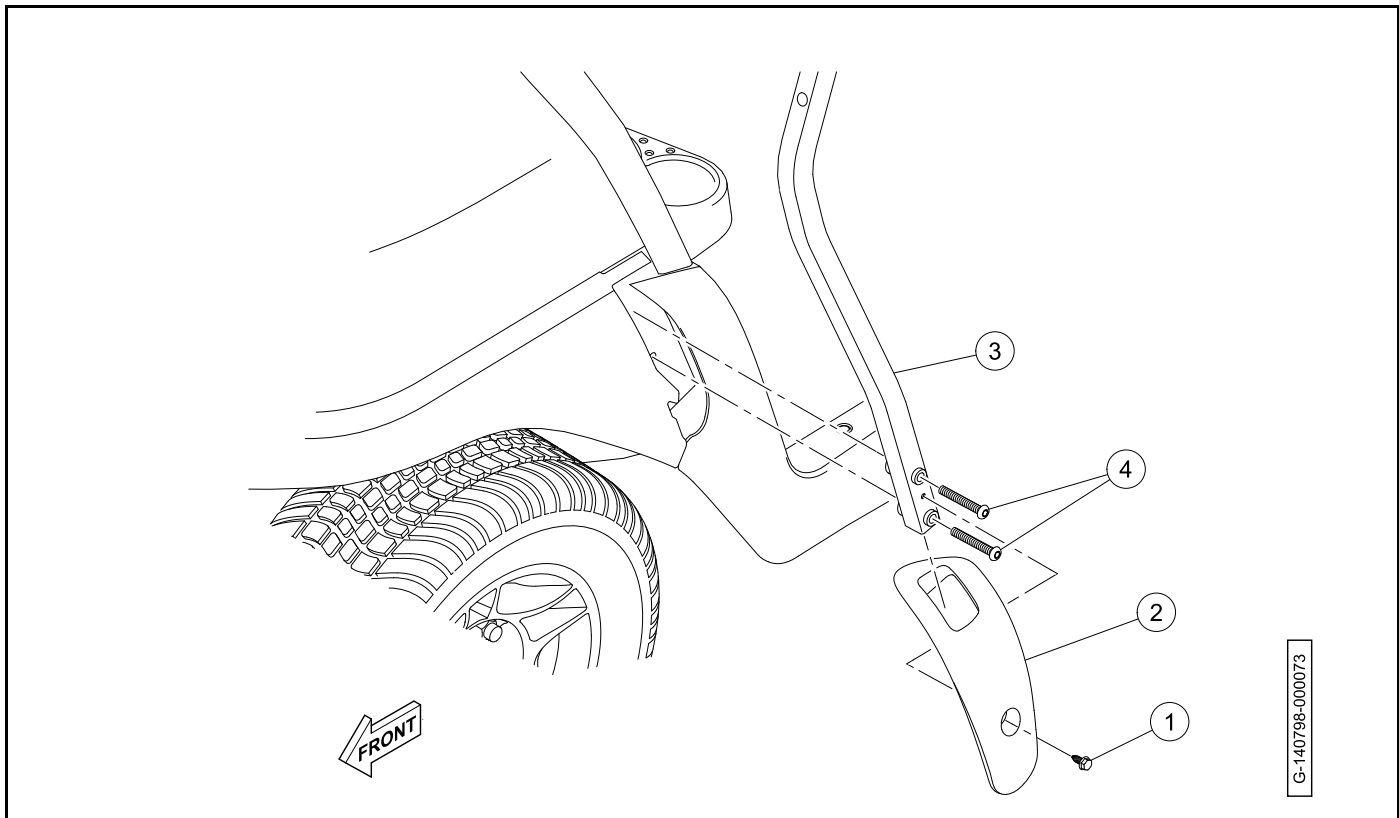

Figure 4-60 Front Canopy Strut Installation
1. Install the front canopy strut (3) onto the vehicle (**Figure 4-60, Page 4-62**).
2. Install the front canopy strut cover (2) onto the front canopy strut.
3. Install the screws (4). Tighten the screws to 18.4 lb·ft (25 N·m).
4. Install the screw (1). Tighten the screw to 31 lb·in (4.6 N·m).